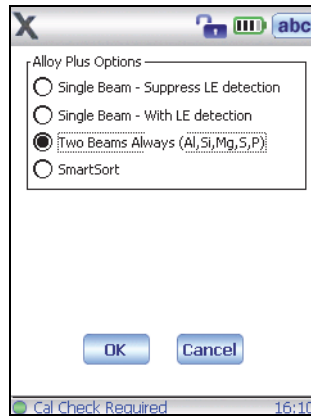

Figure 4-20 Alloy Plus Options
7. In the **Alloy Plus Options** area, select the appropriate option (see Figure 4-20 on page 79), and then tap **OK**.